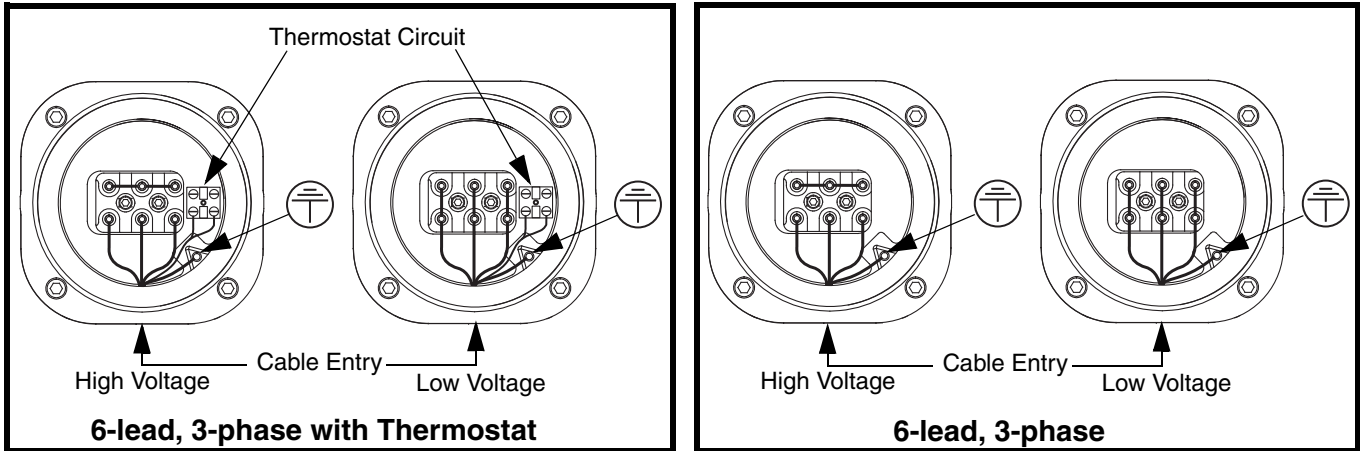

Figure 3. Wiring Diagrams
Wire vibrators according to wiring diagrams in Figure 3.
2. Trim conductors and strip insulation approximately 1/4 inch. Wire vibrator according to wiring diagram inside terminal box or see Figure 3. **Use closed-loop wire connectors only.**